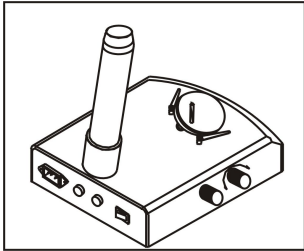

Fig. 10
- 1) Press the stage on the sunken place then the other side will be lifted. (Fig.10)